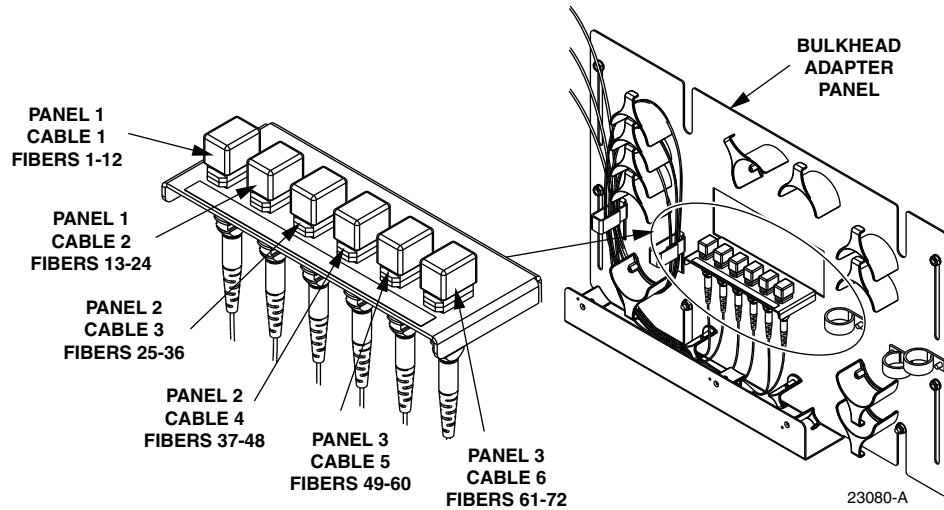

Figure 48. Layout of Bulkhead Adapter Panel
10. Locate the adapters on the bulkhead adapter panel that correspond to the distribution panel to which the distribution cables will be connected. The layout of the adapter panel is shown in Figure 48.